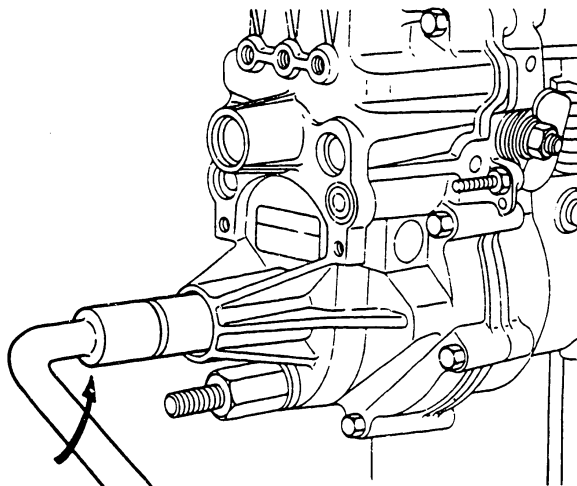

Fig. 101 Removing the idling assembly locknut
- 2) Remove the idling spring plate plug (2), then remove the locknut with the wrench (KDEP 2630). (Fig. 101)